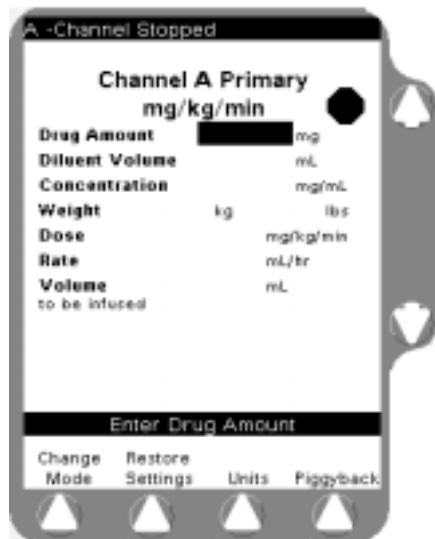

Figure 5-24 Restore Settings
4. To use other programming functions, press the **Change Mode** soft key (Figure 5-24).